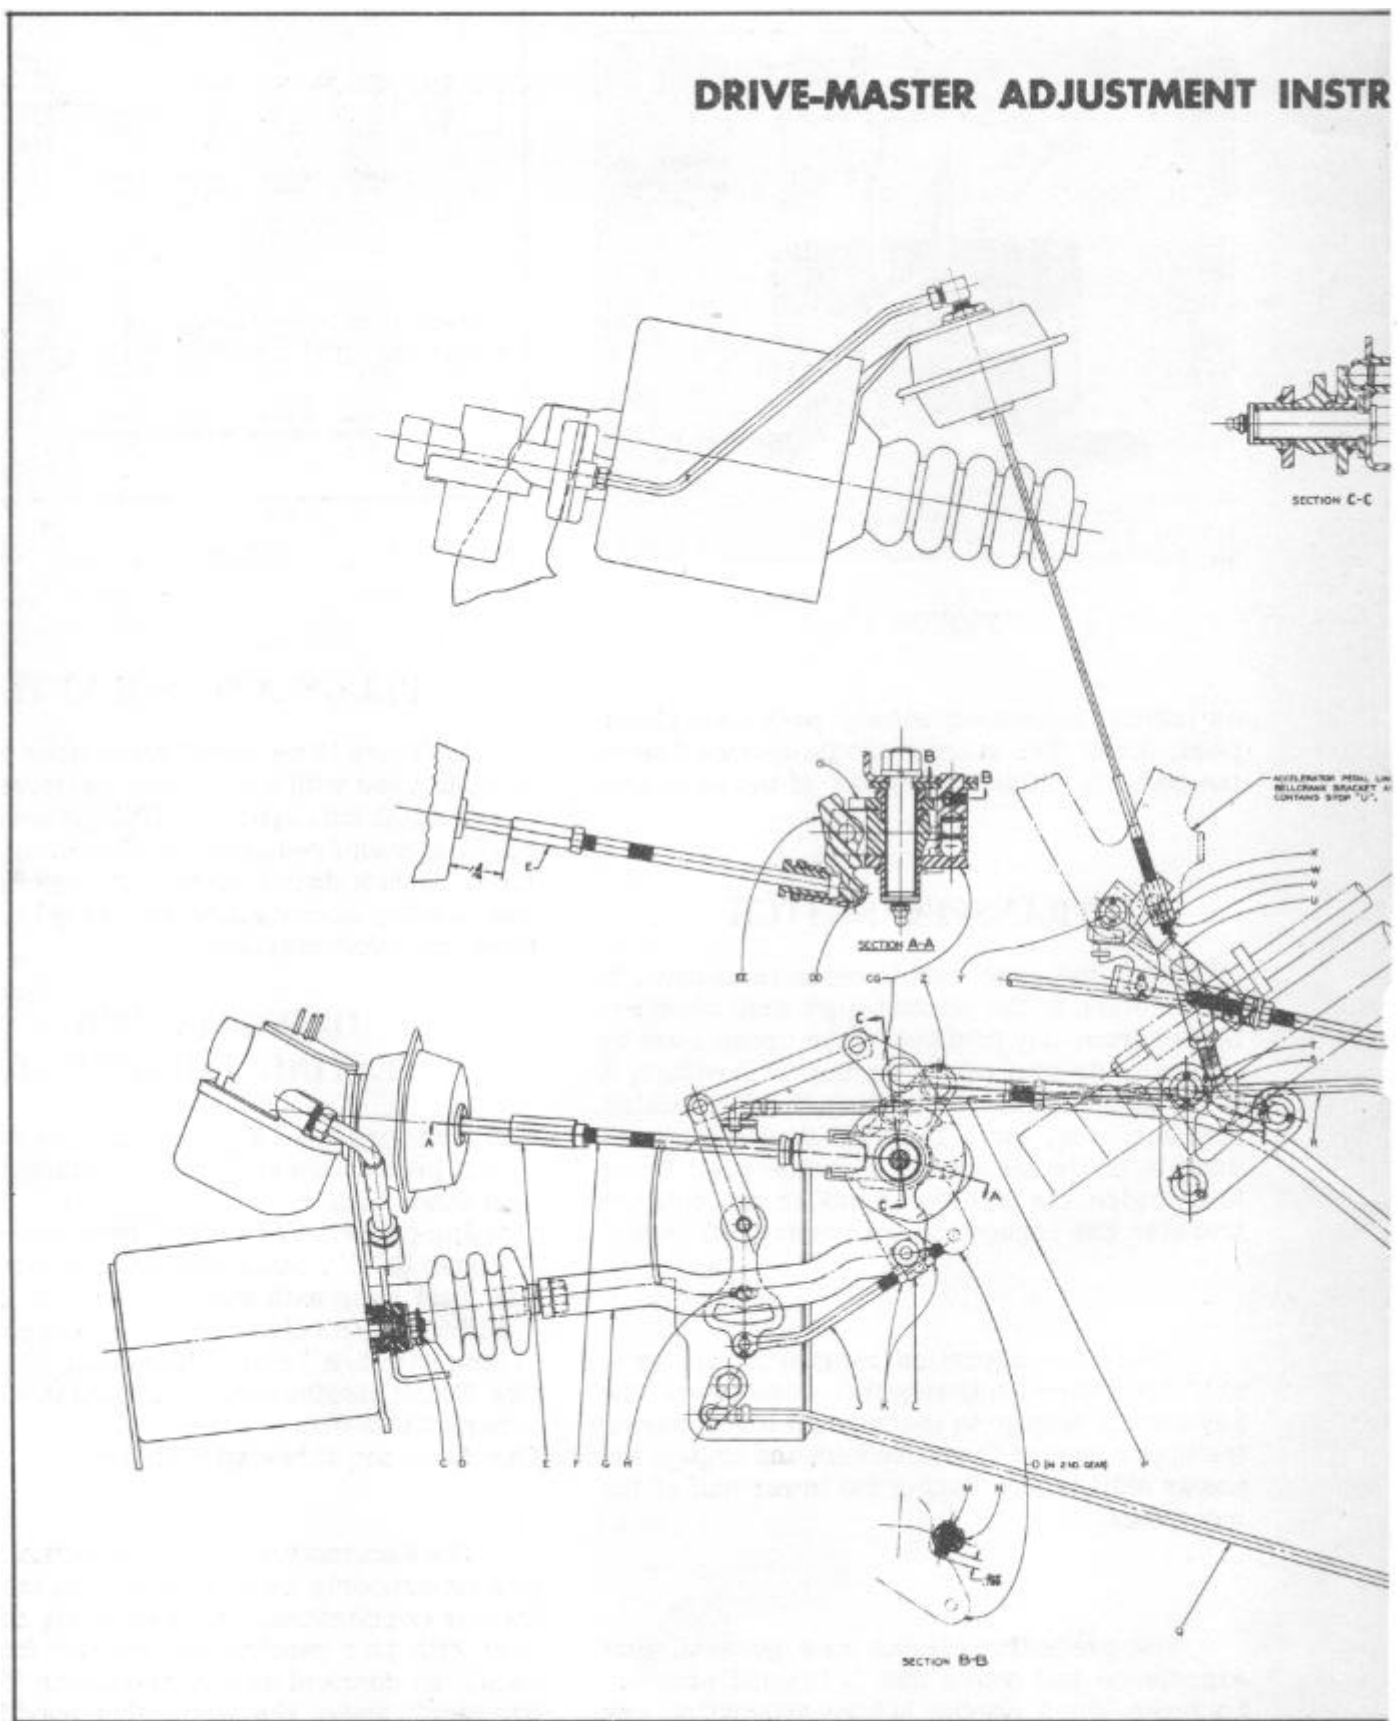

FIGURE 14
- A. If free wheeling never continues for more than 2 or 3 seconds, check spring behind gear shift lock detent. See Section GG in Figure 14. This should be a 30 lb. spring, (Part No. 41236).